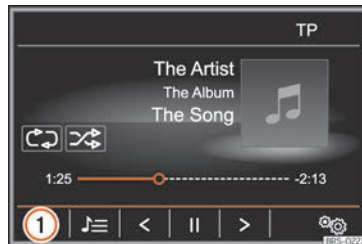

Fig. 211 MEDIA main menu.
- In the MEDIA main menu, press function button »»» **Fig. 211 ①** and select **BT audio**.